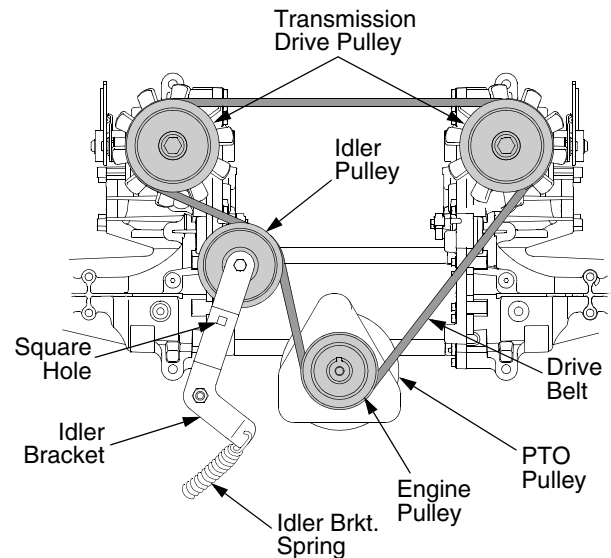

Figure 27
- From beneath the rear of the tractor, insert a 3/8 inch drive ratchet into the square hole of the drive idler bracket. See Figure 27.